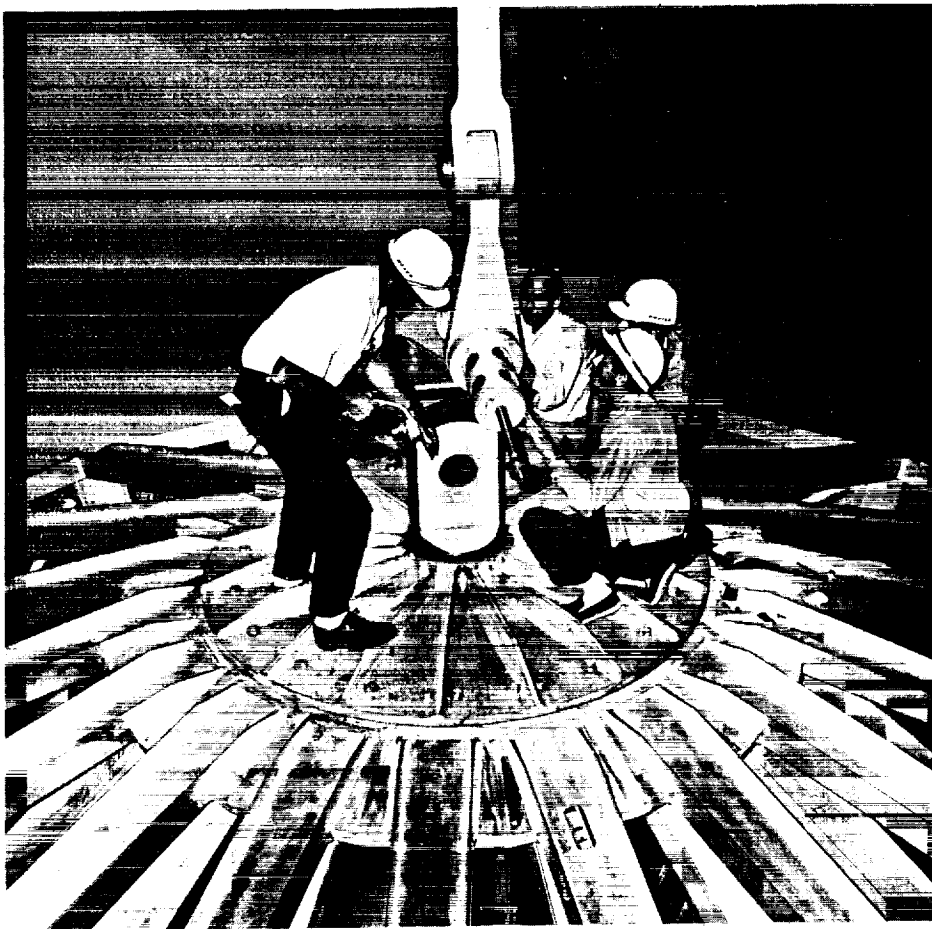

Figure 9-2. Forward Lifting Linkage - Removal
- af. Remove the forward lifting linkage assembly in reverse order of "k" and "l" above per figure 9-2.
- d. Attach the forward lifting linkage assembly (65B61098-1) to the forward handling ring attach point using the 200 ton derrick per figure 9-2. Lubricate inside surface of eye with Texaco Marfax all purpose grease.